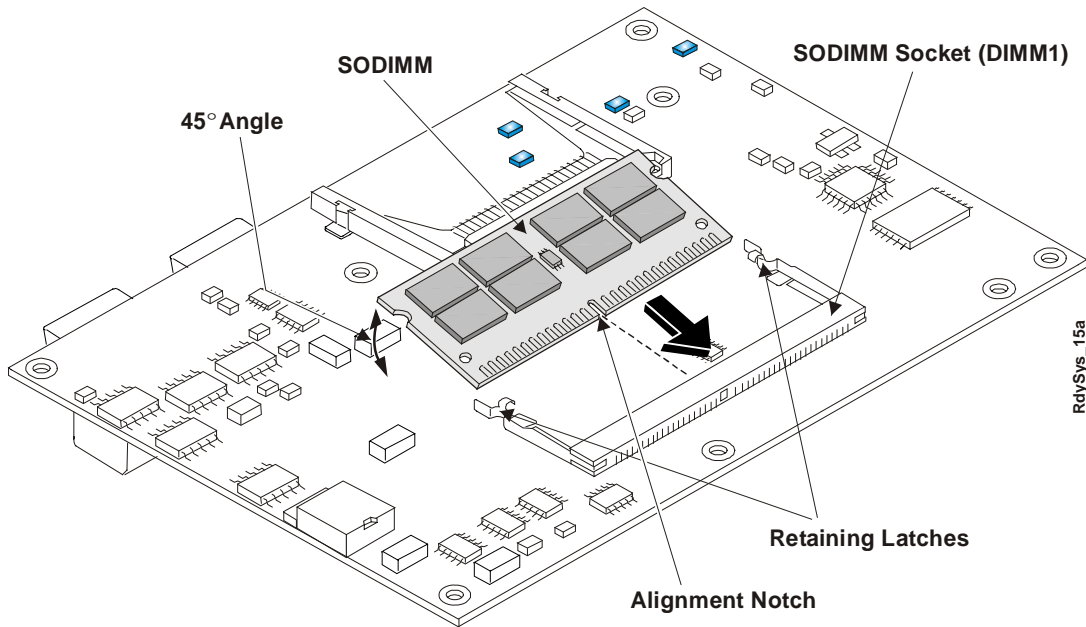

Figure 4-12. Installing SODIMM into Socket
11. Insert the SODIMM into the socket at 45° angle to the bottom of the ReadyBoard model with the components facing up. See Figure 4-12.
12. Press the edges of the SODIMM down between the latches, until the latches snap into place. See Figure 4-12.